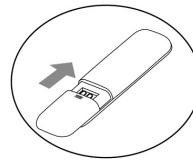

Fig.3
3. Insert the circular fitting for the porthole kit into the retractable flexible tube and insert the retractable flexible tube with circular fitting into the porthole without the cap (Fig. 3).
(Fig. 3)
- Reinsert the cover into the battery compartment (see the direction of the arrow in fig.3).